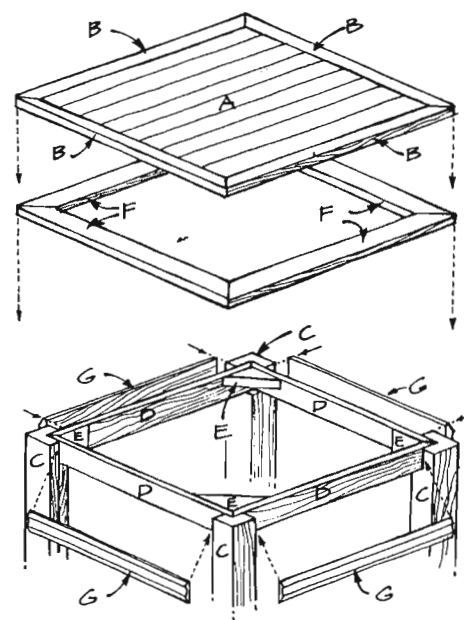

Figure 4
3. Cut four side rails (D) from the 1 x 4 pine, each 45-1/2 inches long. Setting each piece on its edge, miter both ends of each side rail (D) at a 45-degree angle, as shown in *Figure 4*.
4. This next step probably requires the assistance of a willing helper (or an unwilling helper and a baseball bat), and it should be performed on a level surface. Each of the legs (C) must be connected to the side rails (D), and the entire assembly must be perfectly level. It is easier to make certain that you have everything level if you perform the assembly with the legs upside down. (For help in making sure
Carefully fit two of the side rails (D) inside the opening that you previously cut in the legs (C), matching the mitered ends. (Refer to *Figure 4*.) Glue and screw them in place using three 2-inch-long screws in each of the side rails (D). Repeat the process with the remaining three legs (C) and the remaining side rails (D).
5. Cut four triangular corner supports (E) from the 2 x 6 pine. These should measure 5-1/2 inches on the two short sides. Glue and screw them in each of the four corners, as shown in *Figure 4*, using four 3-inch-long screws in each corner support (E).
6. Cut four top trim pieces (F) from the 1 x 4 pine, each 50 inches long. Setting each piece on its face, miter both ends of each top trim piece (F) at a 45-degree angle as shown in *Figure 4*. Fasten the top trim pieces (F) to the legs (C) and to the side rails (D) using glue and screws. Use two 3-inch-long screws to connect each end of each top trim piece (F) to the legs (C). Use 2-inch-long screws spaced about 6 inches apart to connect the top trim piece (F) to the side rails (D). The top trim pieces (F) should overhang the legs by 1/2 inch on the edges.